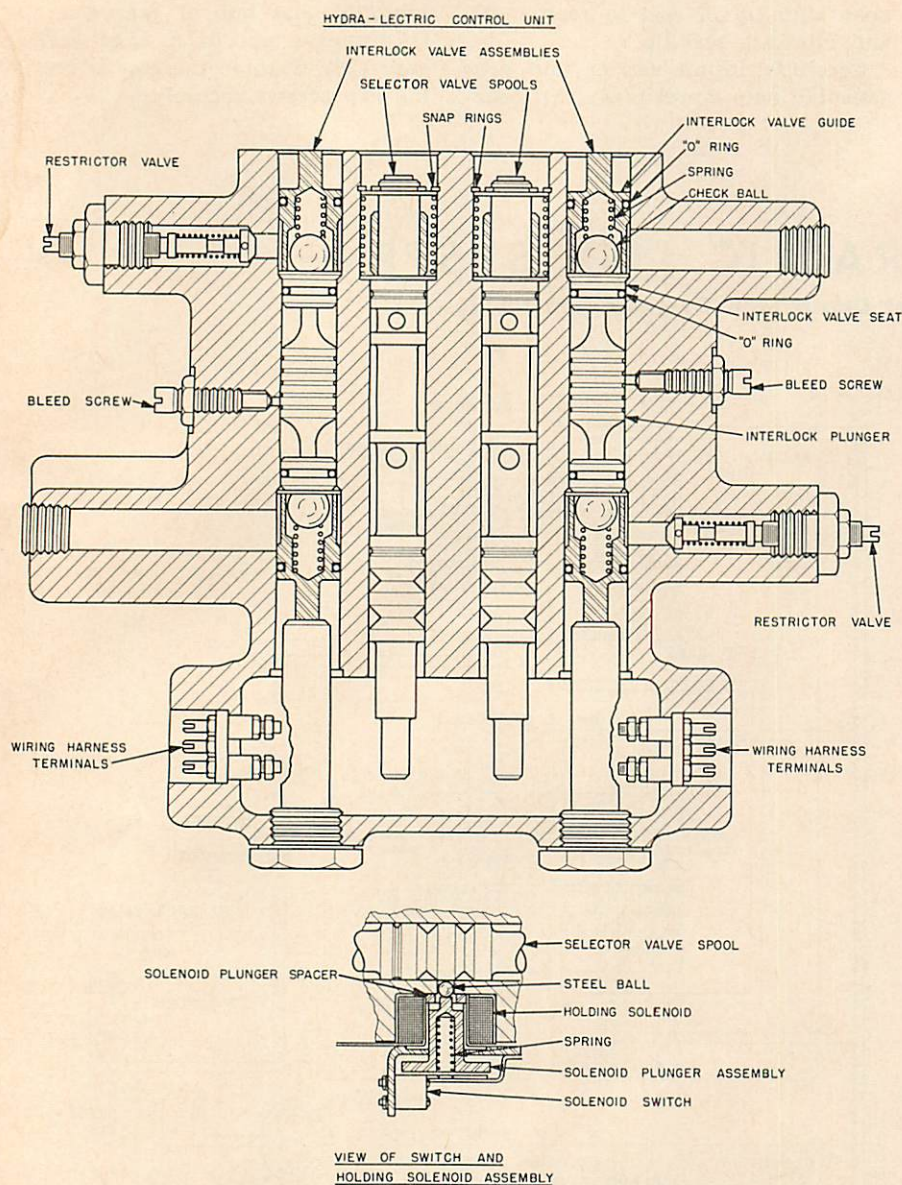

Fig. O141 — Cross-sectional view of Hydra-Lectric control unit and the solenoid holding switch assembly. Refer to Fig. O159 for exploded view of the unit.
**238. RESTRICTOR VALVE.** A restrictor valve is located in one of the remote outlets of each Hydra-Lectric control unit. Refer to cross-sectional view of Hydra-Lectric control unit in Fig. O141. The hose attached to a